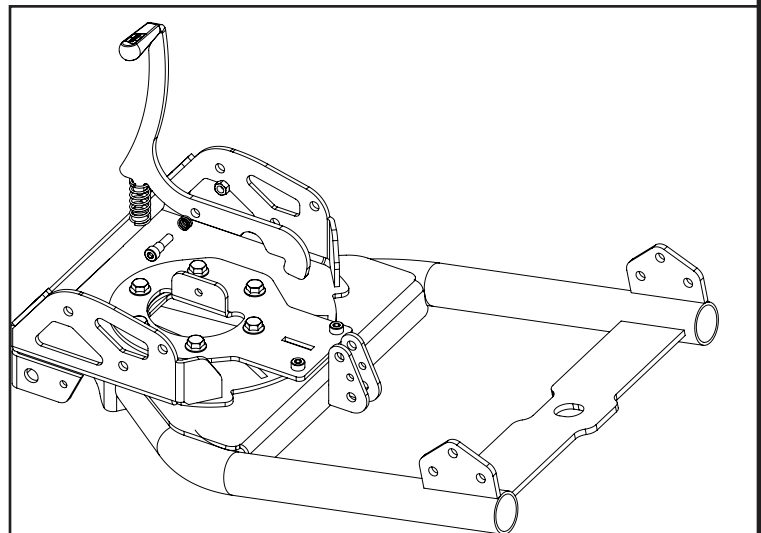

Figure 3
3. Remove shoulder screw to remove the plow lever as shown in Figure 3.